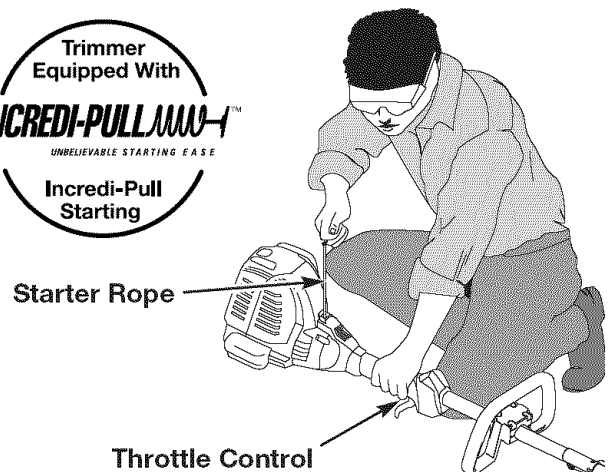

Fig. 8
**WARNING:** Avoid accidental starting. Make sure you are in the starting position when pulling the starter rope (Fig. 8). To avoid serious injury, the operator and unit must be in a stable position while starting.
4. With the unit in the starting position, **do not squeeze the throttle control** (Fig. 8). Pull the starter rope out a short distance, until you feel some resistance. This is usually around 2-4 inches. Then pull the rope smoothly and briskly. Repeat this 5 times. The engine should start.